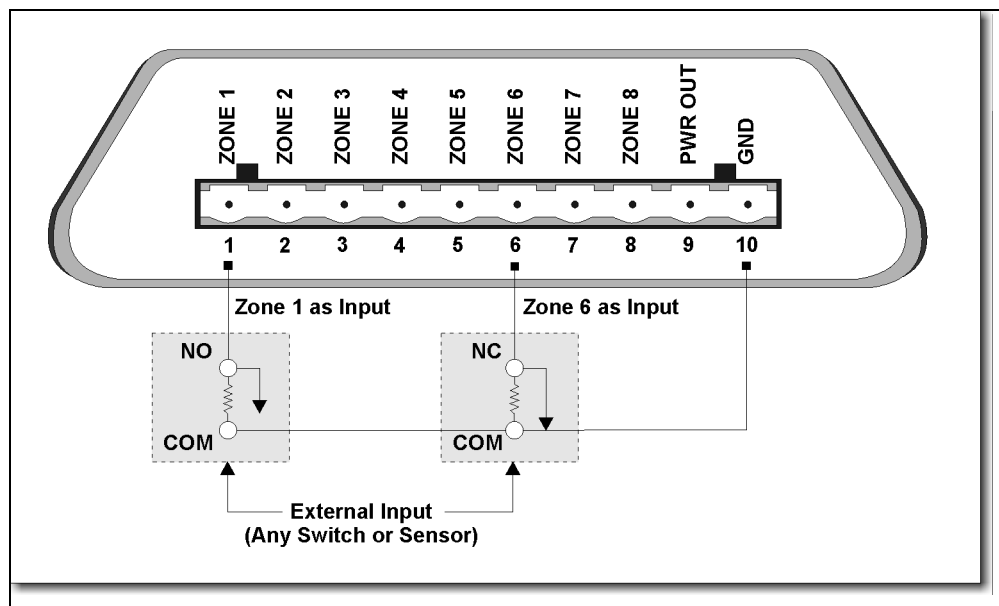
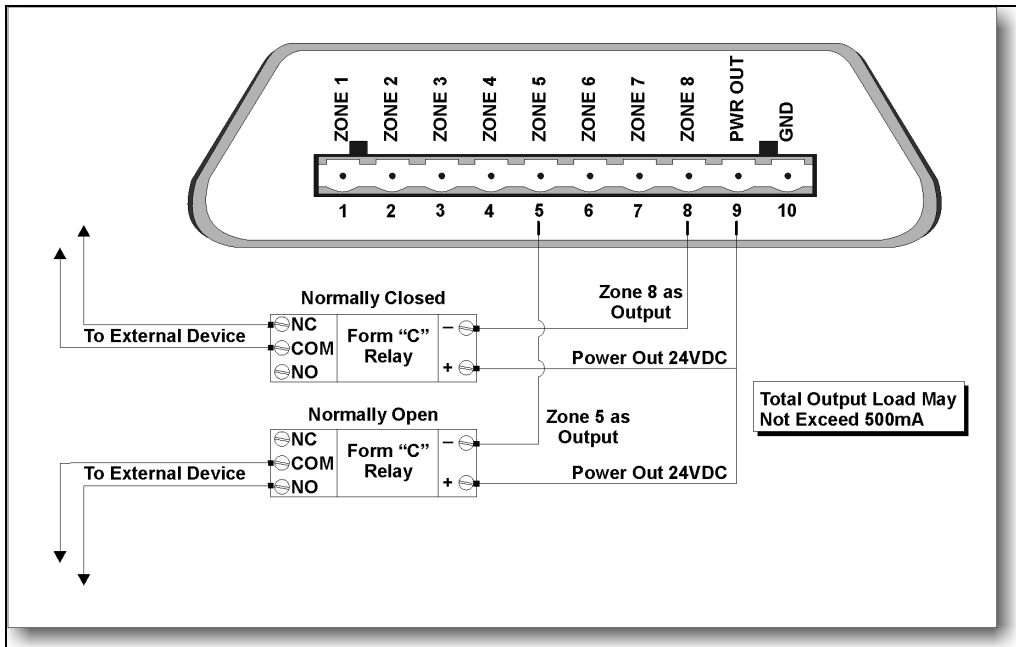

Figure 3-19: I/O-8 Module Typical Input Wiring
Figure 3-20: I/O-8 Module Typical Output Wiring
- 2 Connect the inputs and outputs. See Figure 3-19 and Figure 3-20 on page 3-41.